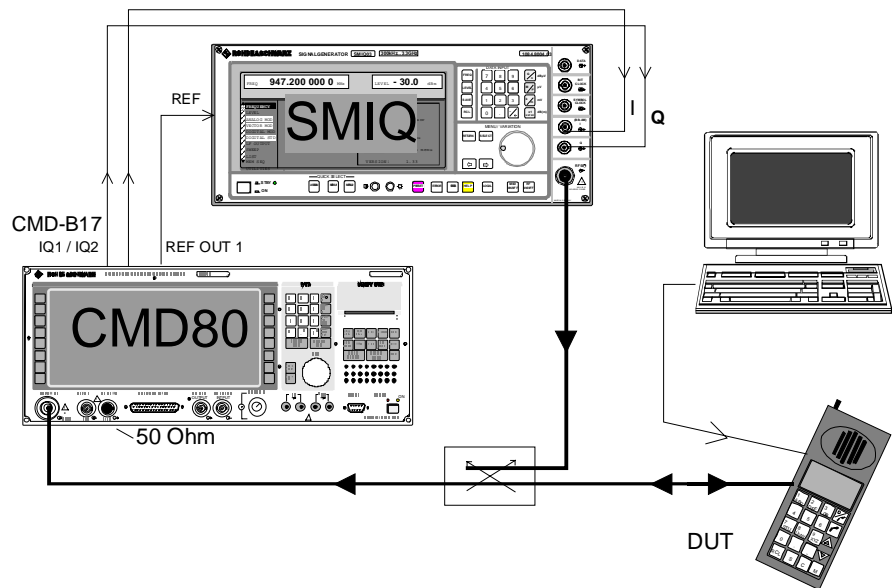

Fig. 1: Test setup
To carry out bit error measurements a loop has to be completed from the receive to the transmit path in the mobile. This is done by a (manufacturer-specific) remote control unit shown as a PC in Fig. 1.
- Connect the RF paths as shown in Fig. 1. Note that the DUT is not yet to be connected. Use well-shielded cables.